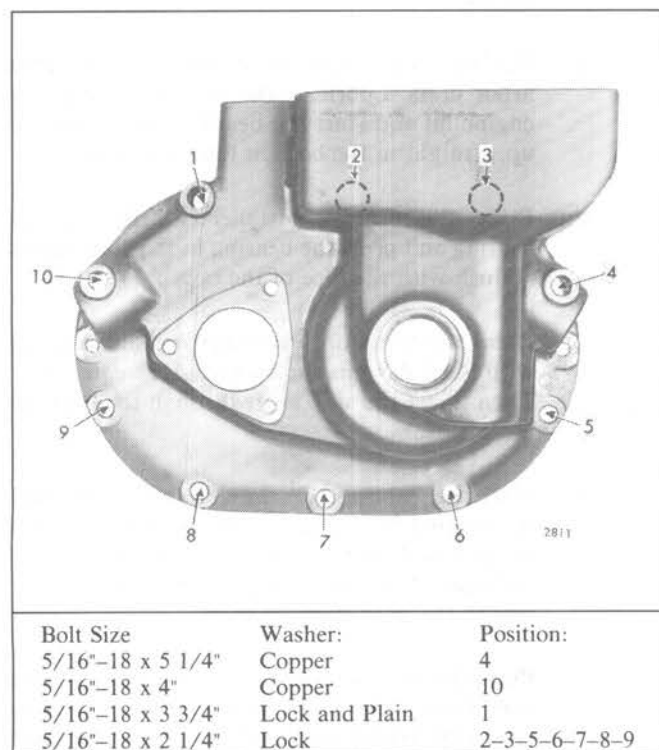

Fig. 24 – Location and Size of Governor Retaining Bolts
6. Refer to Fig. 24 for the location and install the bolts, lock washers, copper washers and plain washer which secure the governor to the blower. Tighten the bolts to 13–17 lb-ft (18–23 N•m) torque.
2. Refer to Fig. 24 for bolt location and install the bolts, lock washers, plain washer and copper washers which secure the governor to the blower. Tighten the bolts to 13–17 lb–ft (18–23 N•m) torque.